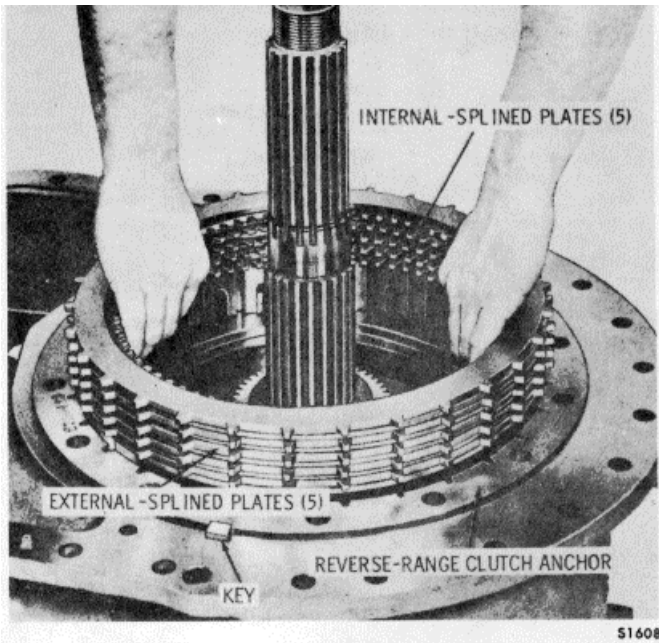

Figure 15-69. Removing Reverse-Gear Clutch Plates
3. Remove five external and five internal-splined, reverse gear clutch plates from the reverse-clutch anchor (Figure 15-69). Remove the reverse-gear clutch anchor. Remove two keys from the transmission housing.